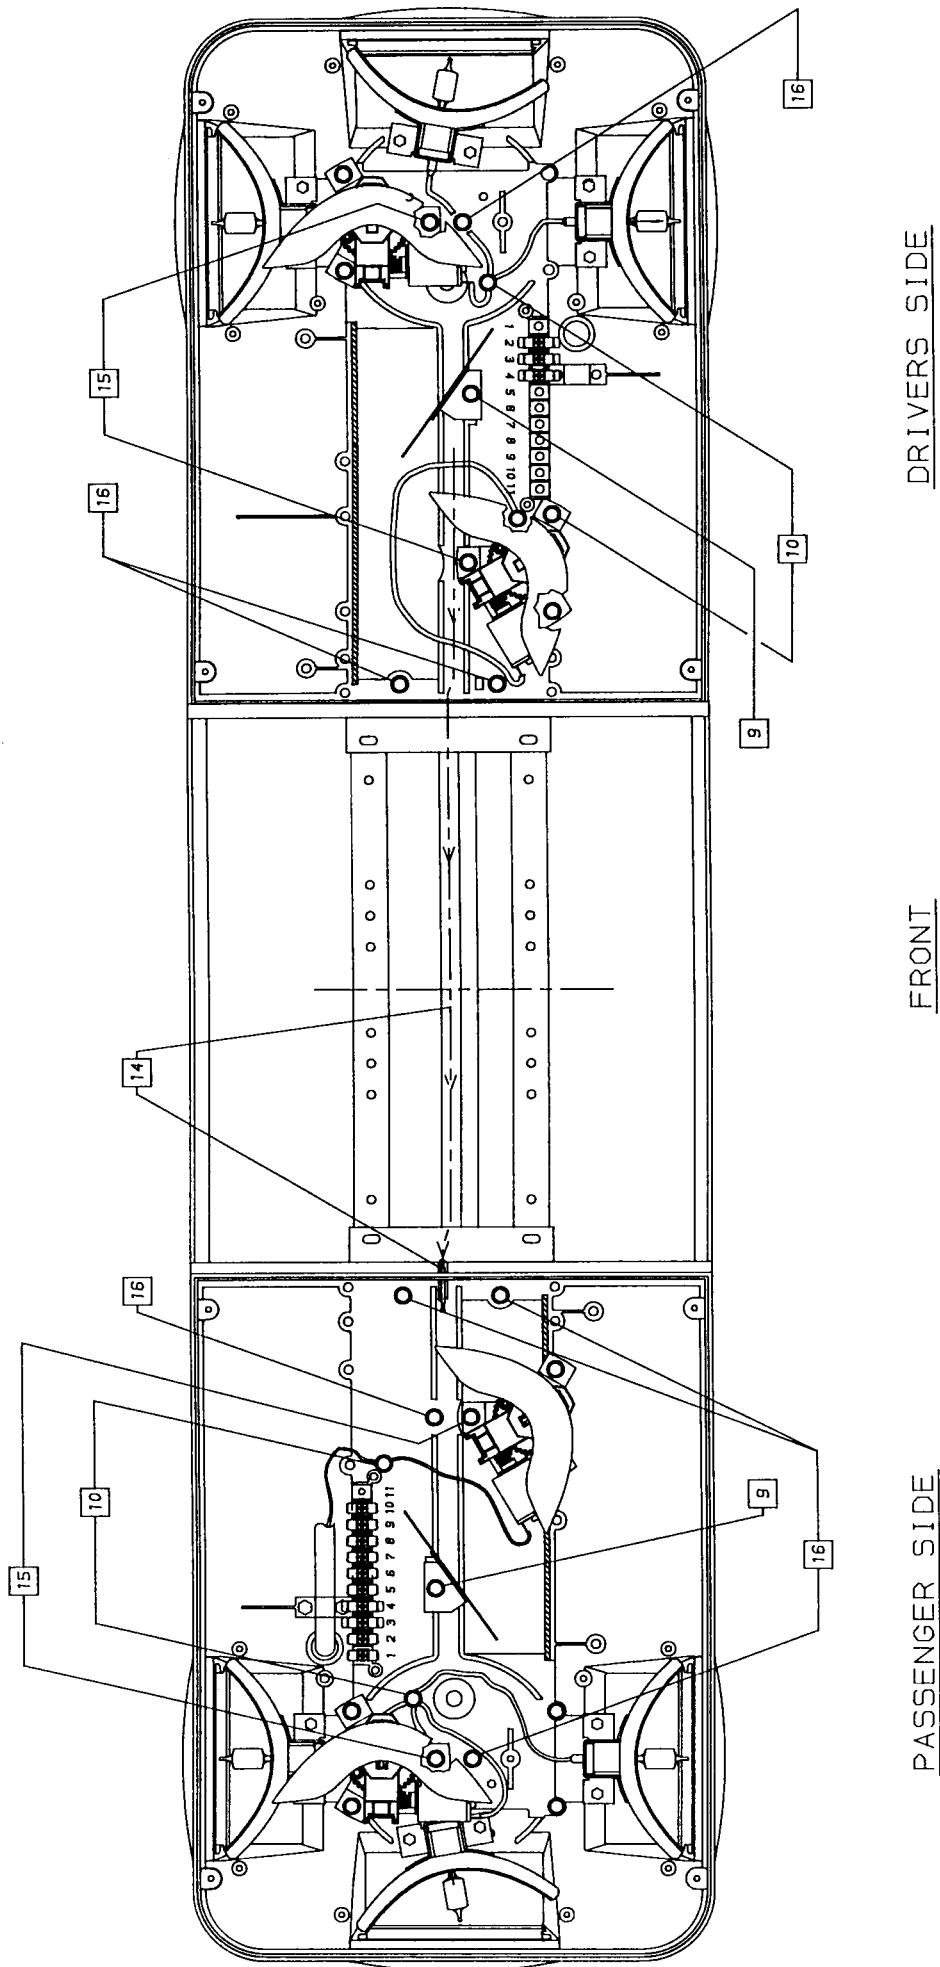

Figure 2.
9. See figure 2. Remove the driver side and passenger side diagonal mirrors from the base (5/16 hex hd). To ease reassembly, note and record their position.
10. See figure 2. Remove the rotators' ground screws. To ease reassembly, note the locations. The inboard rotators' grounds will be relocated in a later step.
14. Remove the silicone sealant around the lightbar wiring harness where it enters the driver side and passenger side bases. See figure 2. Carefully pull the lightbar wiring harness and brown zip-cord (speaker wire) toward the passenger side through the hole in the driver side base. Remove and discard the brown zip-cord speaker wire. Pull the wiring harness through the hole in the passenger side base.
15. See figure 2. Remove the #10 thread-forming screws that secure the rotators to the metal channels.
16. See figure 2. Remove the #10 thread-forming screws that secure the plastic bases and lower grill to the metal channels.